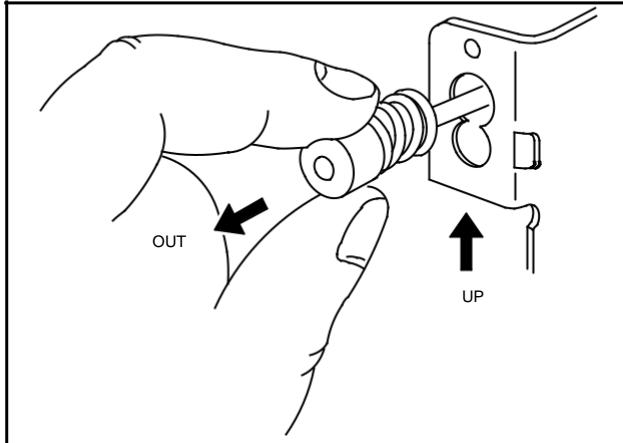

Fig. 351 - SPEED ADJUSTING NUT
2. Start engine and pull out on speed adjusting nut to maximum length of travel, Fig. 351.